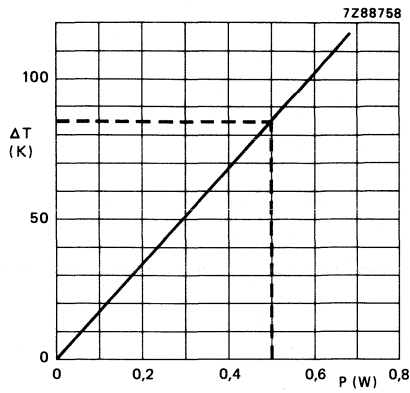

Fig.2 Hot-spot temperature rise (ΔT) as a function of dissipated power.
* See Fig.2 in datasheet SFR16T.